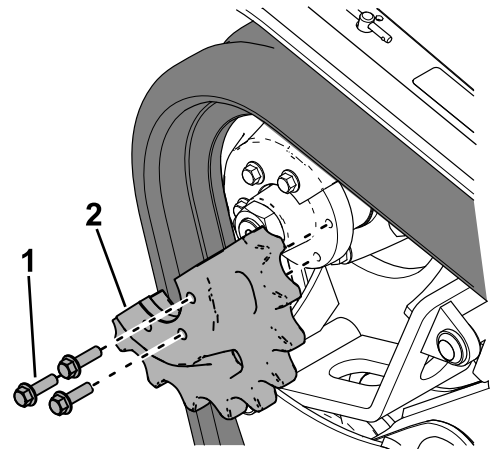

Figure 62
19. Apply thread-locking compound to the bolts of the drive sprocket half that you removed and install the sprocket half (Figure 62). Torque the bolts to 95 to 115 N·m (70 to 85 ft·lb).